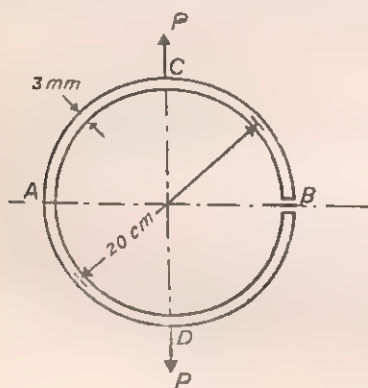

Fig. 47
26. The ring shown in Fig. 47 is made of flat steel strip 20 mm  $\times$  3 mm and is shaped in the form of a circle of mean diameter 20 cm. The ends at  $B$  are cut square and not joined. A pull  $P$  is applied along the diameter  $CD$  which is at right angles to the diameter  $AB$ . If the maximum tensile stress due to  $P$  is 1,250 kg/cm2, find the increase in the opening at  $B$ .  $E = 2 \times 10^6$  kg/cm2. (Lond. Univ.)